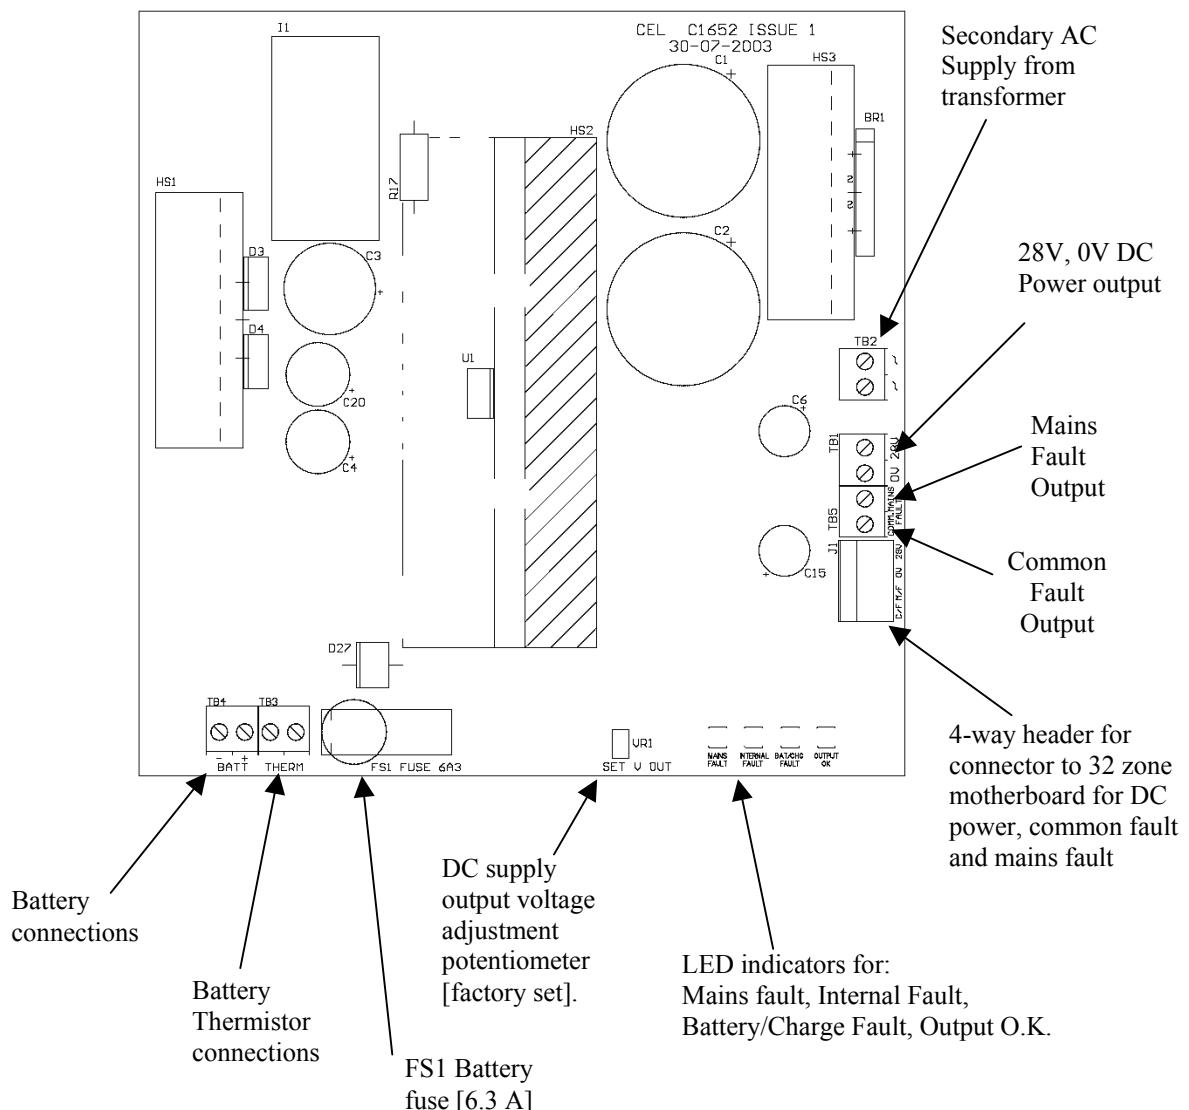

Figure 12 – 32-Zone Power Supply Layout
Figure 12 shows the layout of the 32 zone panel power supply.
26. Connect the black battery lead to the power supply “Batt -” [battery negative] terminal and connect the red battery lead to the power supply “Batt +” [battery positive] positive terminal [situated on the motherboard for the Mx-1002, Mx-1004, Mx-1008 and Mx-1016 panels and repeater panel or on the separate power supply board in the Mx-1032 panel]. The location of the motherboard battery terminals are shown in Figure 10 – C1627 Motherboard Layout and Figure 12 – 32-Zone Power Supply Layout. Fit the connector on the end of the black lead onto the negative (black) terminal of the left-hand battery. Fit the connector on the end of the red lead onto the positive (red) terminal of the right-hand battery.